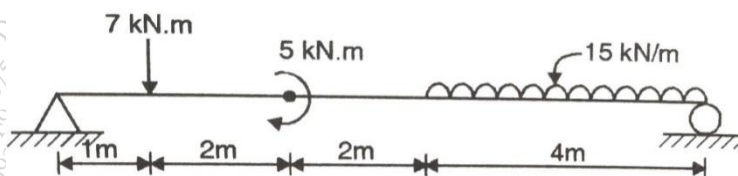

Figure 03
- A) Draw shear force and bending moment diagrams for the beam loaded as shown in figure 03